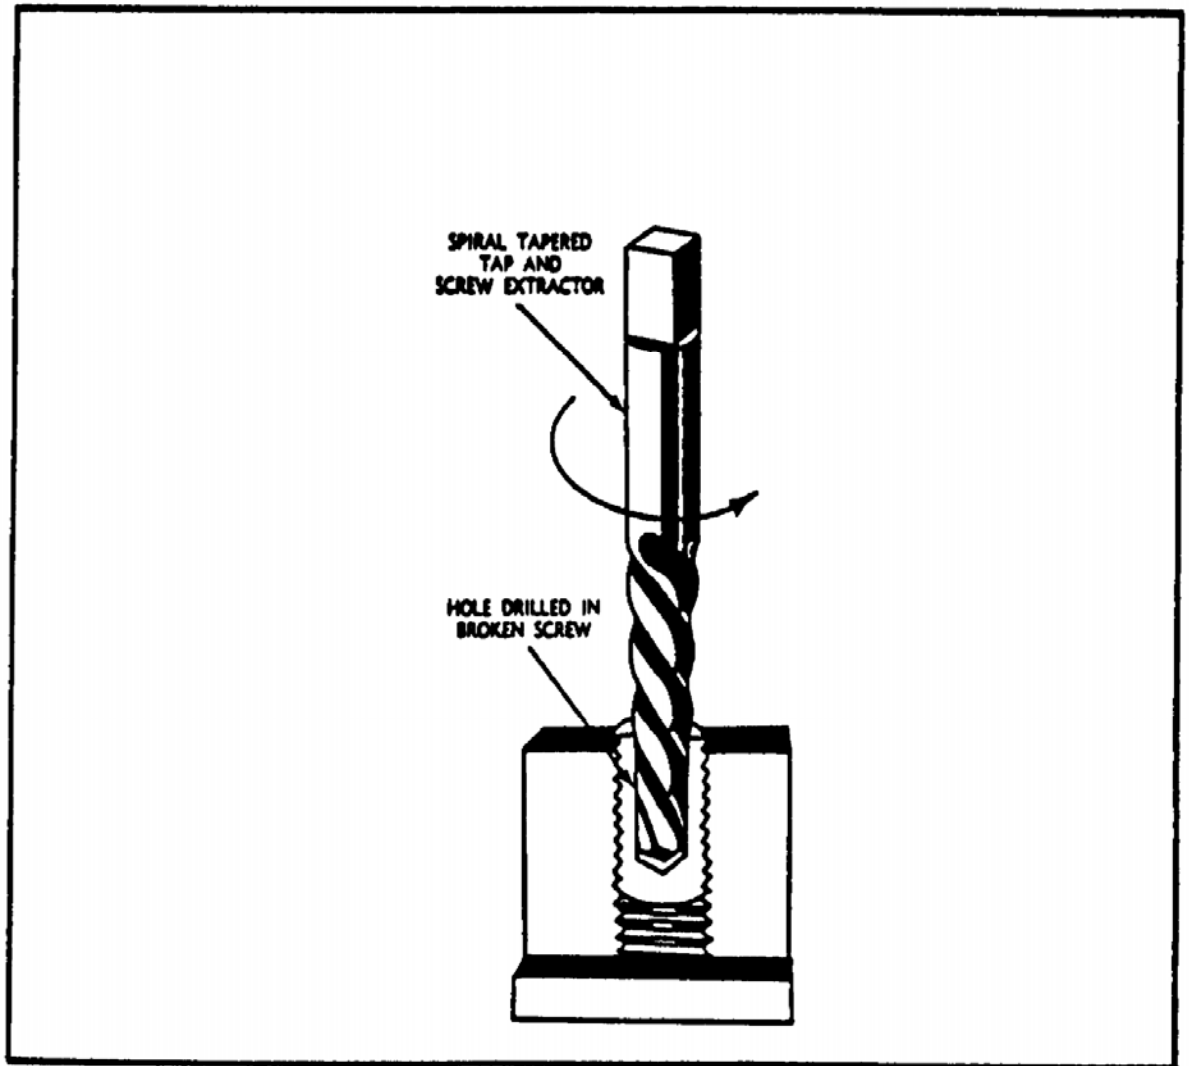

FIGURE 149. USING SPIRAL TAPERED TAP AND SCREW EXTRACTOR.
(3) Drive the extractor into the hole, slip the turn nut over the extractor, turn it counterclockwise, and turn out the broken unit. The flutes will grip the walls of the drilled unit and remove it without damaging the threads of the tapped hole.
(4) For screws or taps that are broken off below the surface, use the correct size guide to center the drill before drilling the first small hole. Enlarge the hole as before. Remove the drill and insert the extractor into the hole. Slip the turn nut over the extractor and turn out the broken screw or tap.
(5) When using a spiral tapered extractor (figure 149), drill the hole in the broken unit slightly smaller than the diameter of the extractor. Insert the extractor into the hole and turn it counterclockwise.